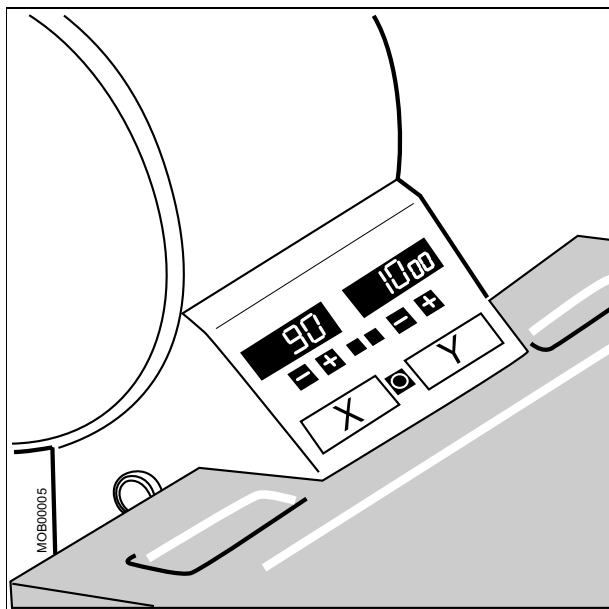

Fig. 1
- Mount warning label 60 77 411. Choose appropriate language version and paste it/them on the Control and display panel according to X, Y/ Fig. 1.